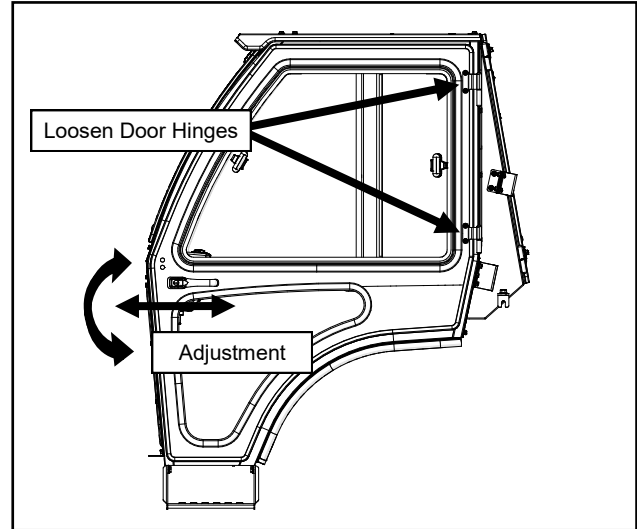

Fig. 23.2a (Door Hinge Adjustment)
23.2 Loosen the door hinges to allow for adjustment later. Hang the left door on the hinges. While lifting up and forward on the door handle, line up the door latch with the striker pin and carefully attempt to latch. You should be able to hear 2 clicks as you slowly engage the latch on the pin. If the latch is too far forward or back to latch on the pin, adjust as shown. See Figures 23.2a through c. Then retighten and latch.